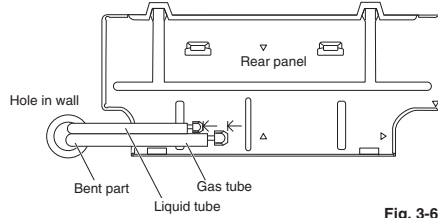

Fig. 3-63
- (1) Lead the tubing and drain hose through the wall, allowing sufficient length for connection. Then bend the tubing using a tube bender to make the attachment. (Fig. 3-63)